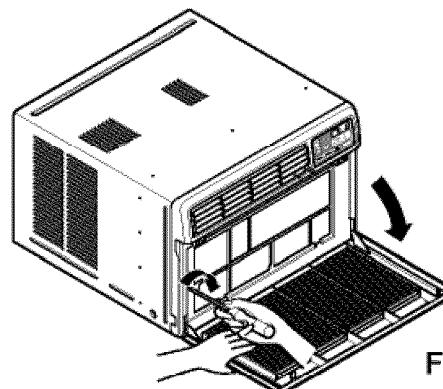

Fig. 11
- 14** Pull down the inlet grille and secure it with a Type A screw ⑤ through the front grille. (See Fig. 11)